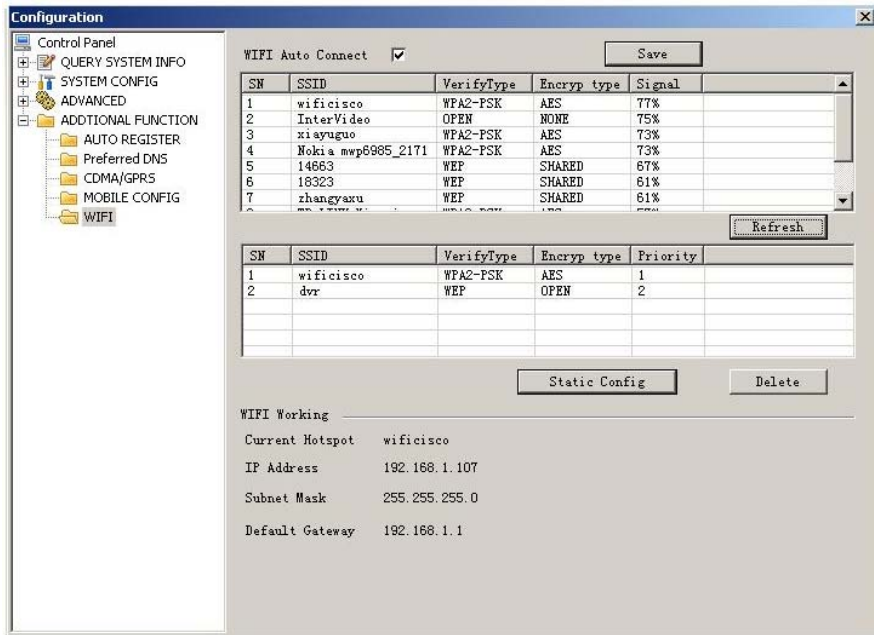

Figure 7-60
- WIFI working information: After system successfully connected to WIFI, you can view hotspot name, IP address, subnet mask, default gateway and etc. See Figure 7-60.